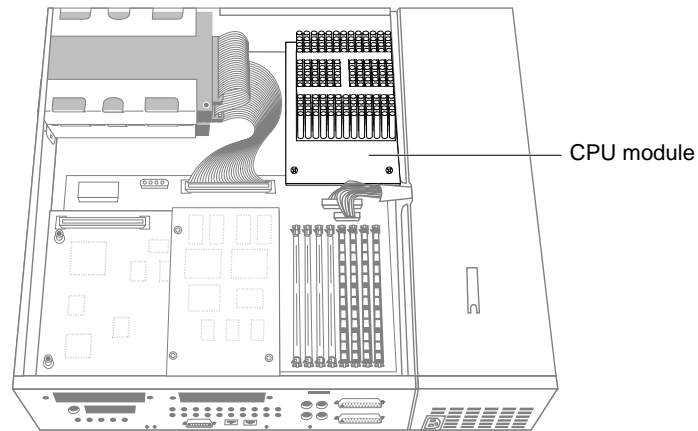

Figure 8-20 Locating the CPU Module
5. Locate the CPU module, as shown in Figure 8-20.